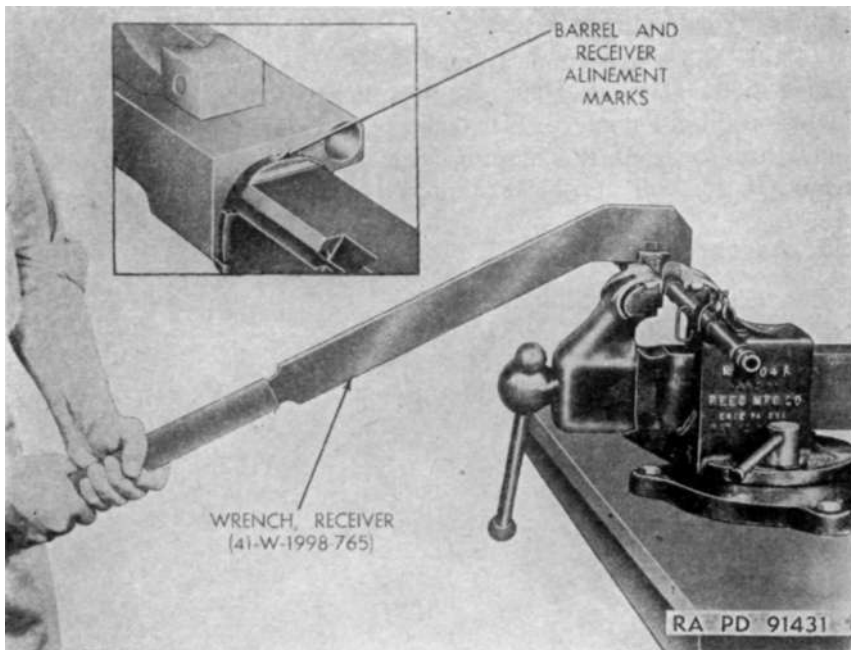
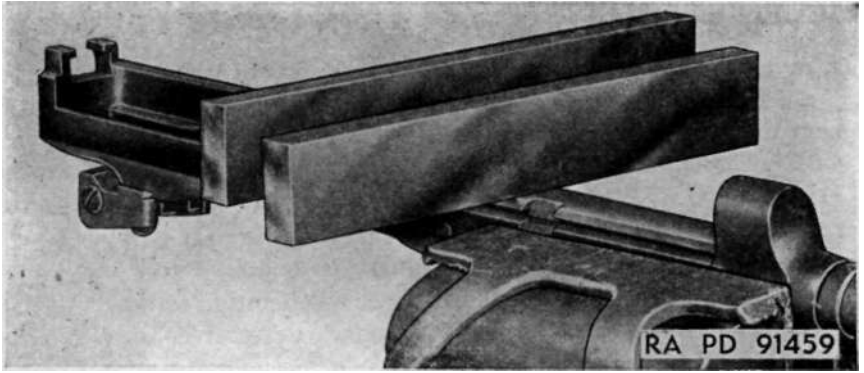

Figure 52. Assembling barrel to receiver.
Figure 53. Checking barrel and receiver alignment.
(3) Select proper barrel and receiver combination so about $\frac{1}{16}$ -inch draw is obtained when assembled. Screw the receiver on the barrel with special wrench (41-W-1998-765); draw up receiver until draw line on receiver (fig. 52) coincides with line on barrel. Flat surfaces on bottom of barrel and receiver must be parallel. Check this by placing two bars, about 10 inches long, in position as illustrated in figure 53, and sight over the edges. When the two bars lie parallel, the barrel and receiver are in exact alignment for proper functioning.